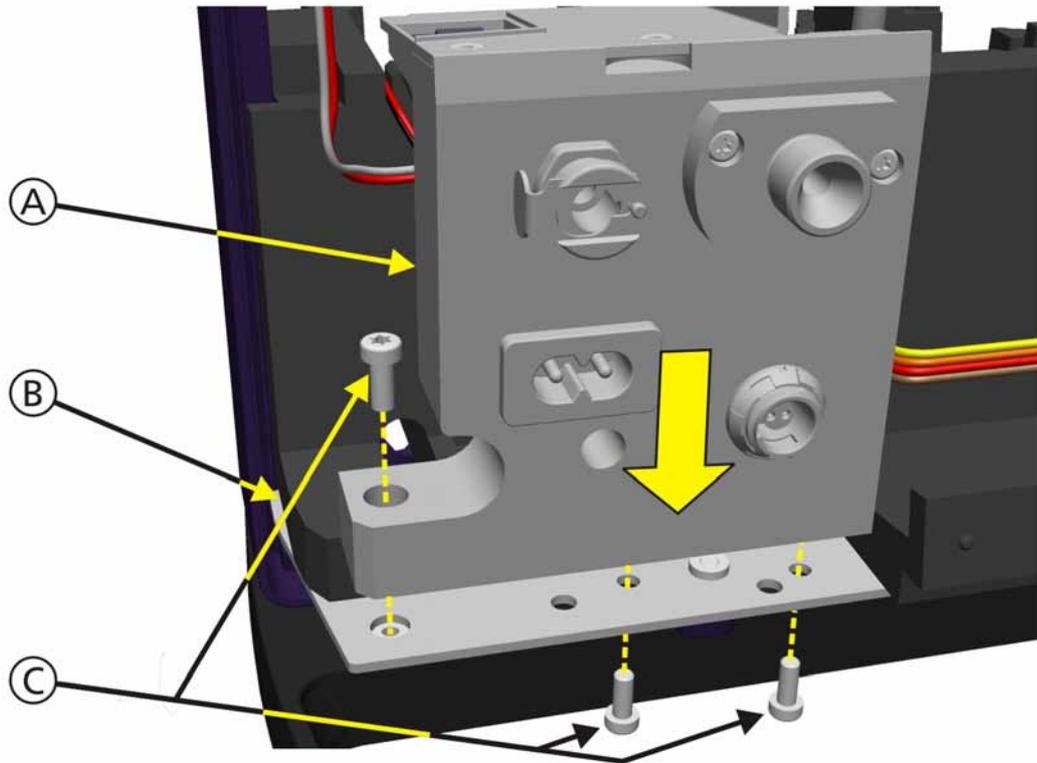

Figure 11-51. Oxygen Mixer Block Assembly Mounting
- Figure 11-51, *Oxygen Mixer Block Assembly Mounting*, on page 11-58